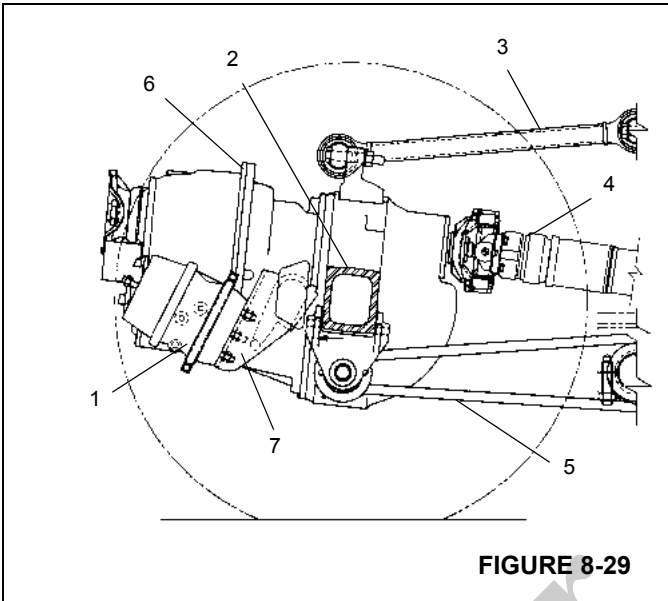

FIGURE 8-29
1. Remove the clamp securing the service brake chamber to the spring brake chamber (see Figure 8-29).